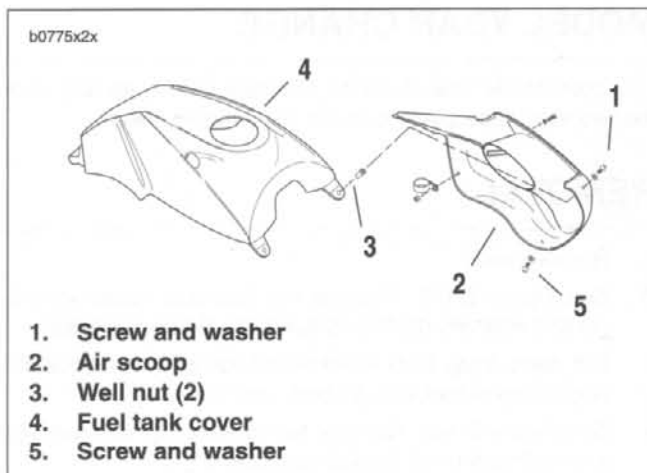
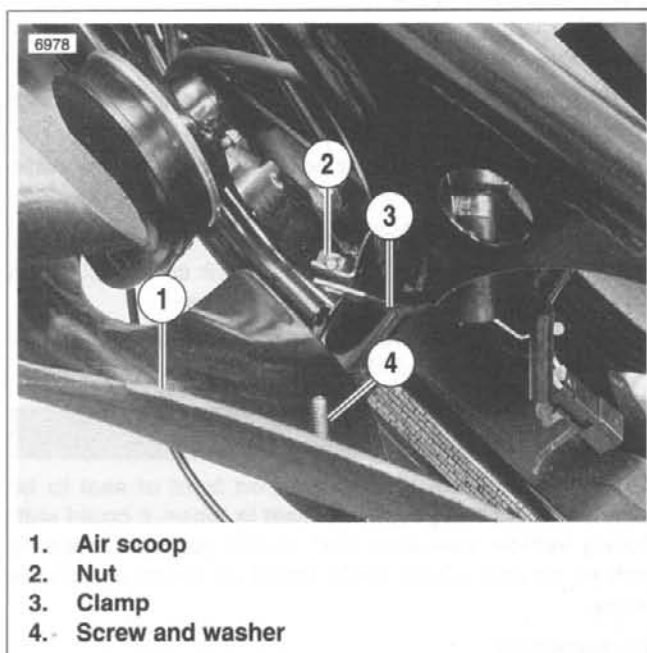

Figure 2-161. Air Scoop
Figure 2-162. Air Scoop Clamp
1. See Figure 2-161. Remove screw and washer (1) from well nut (3) at front of air scoop (2).
2. Remove screw and washer (5) from well nut at bottom of air scoop.
3. See Figure 2-162. Remove screw, washer and nut holding air scoop (1) to clamp (3).
1. See Figure 2-161. Position air scoop (2) over fuel tank cover (4).
2. Fasten air scoop (2) to fuel tank cover (4) using screw and washer (1) and well nut (3) at front of scoop.
4. See Figure 2-162. Install screw, washer, and nut to attach air scoop (1) to clamp (3).